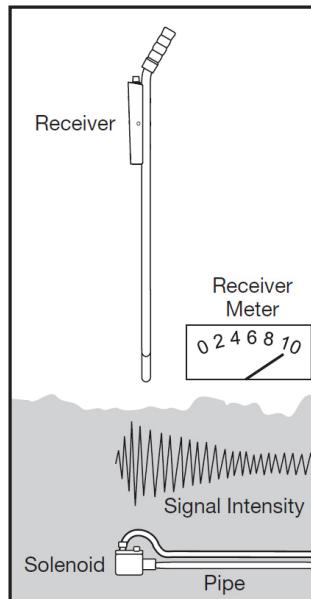

FIGURE 6: Determining Depth Locating Broken Wire End
- Set-up transmitter as in "Set-up Section". The null will be present until you pass over a solenoid valve, and then the signal will become extremely strong. Mark this spot. Check around the hot spot for a null leaving the area. If the null continues, follow it and mark any additional hot spots. (Refer to Figure 6) If only one hot spot or valve is located, it will be the valve in question.